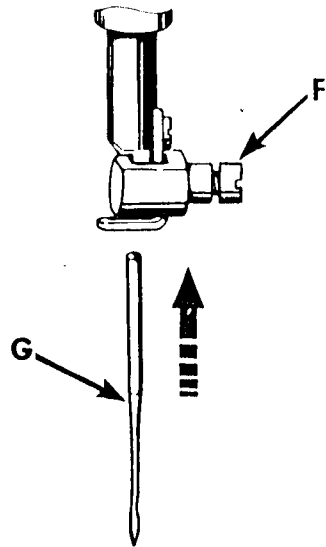

Fig. 9. Setting the Needle
- Loosen needle set screw F, Fig. 9.
- Insert needle UP into needle bar AS FAR AS IT WILL GO with long, continuous groove G, Fig. 9, of the needle facing LEFT end of machine, as shown in Fig. 9.